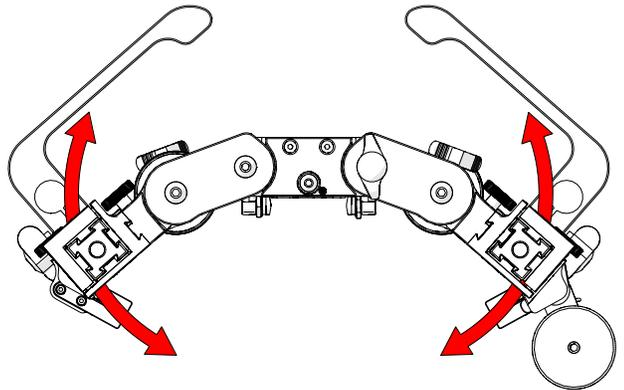

Fig. 14 - Pivot scanner to appropriate diameter
2. Pivot the frame bars or use the handles to adjust the frame to the diameter required (Fig. 14).